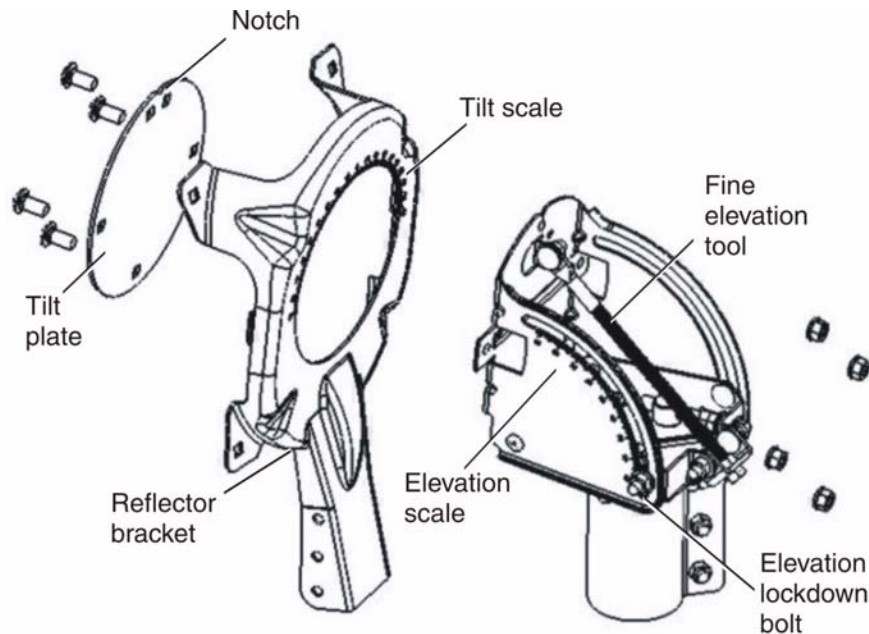

Figure 10: Attaching the reflector bracket
1. Hold the reflector bracket in position over the az/el mount so that the tilt scale faces the mount, as shown in Figure 10.